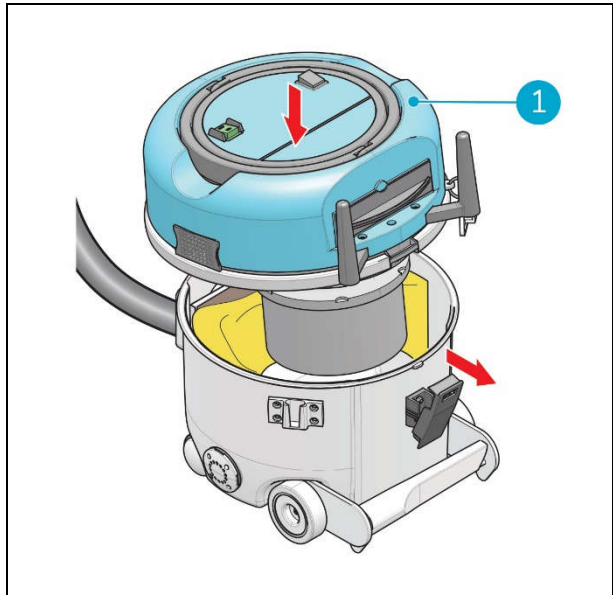

Figure 15
14. Place the head (fig 15, pos 1) onto the can.